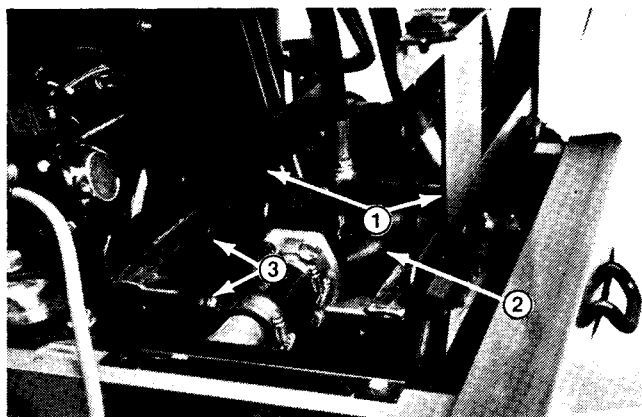

Figure 31
3. Remove two (2) capscrews and pull battery tray out (Fig. 31). Disconnect cables from batteries.
4. Remove six (6) capscrews and remove rear panel.